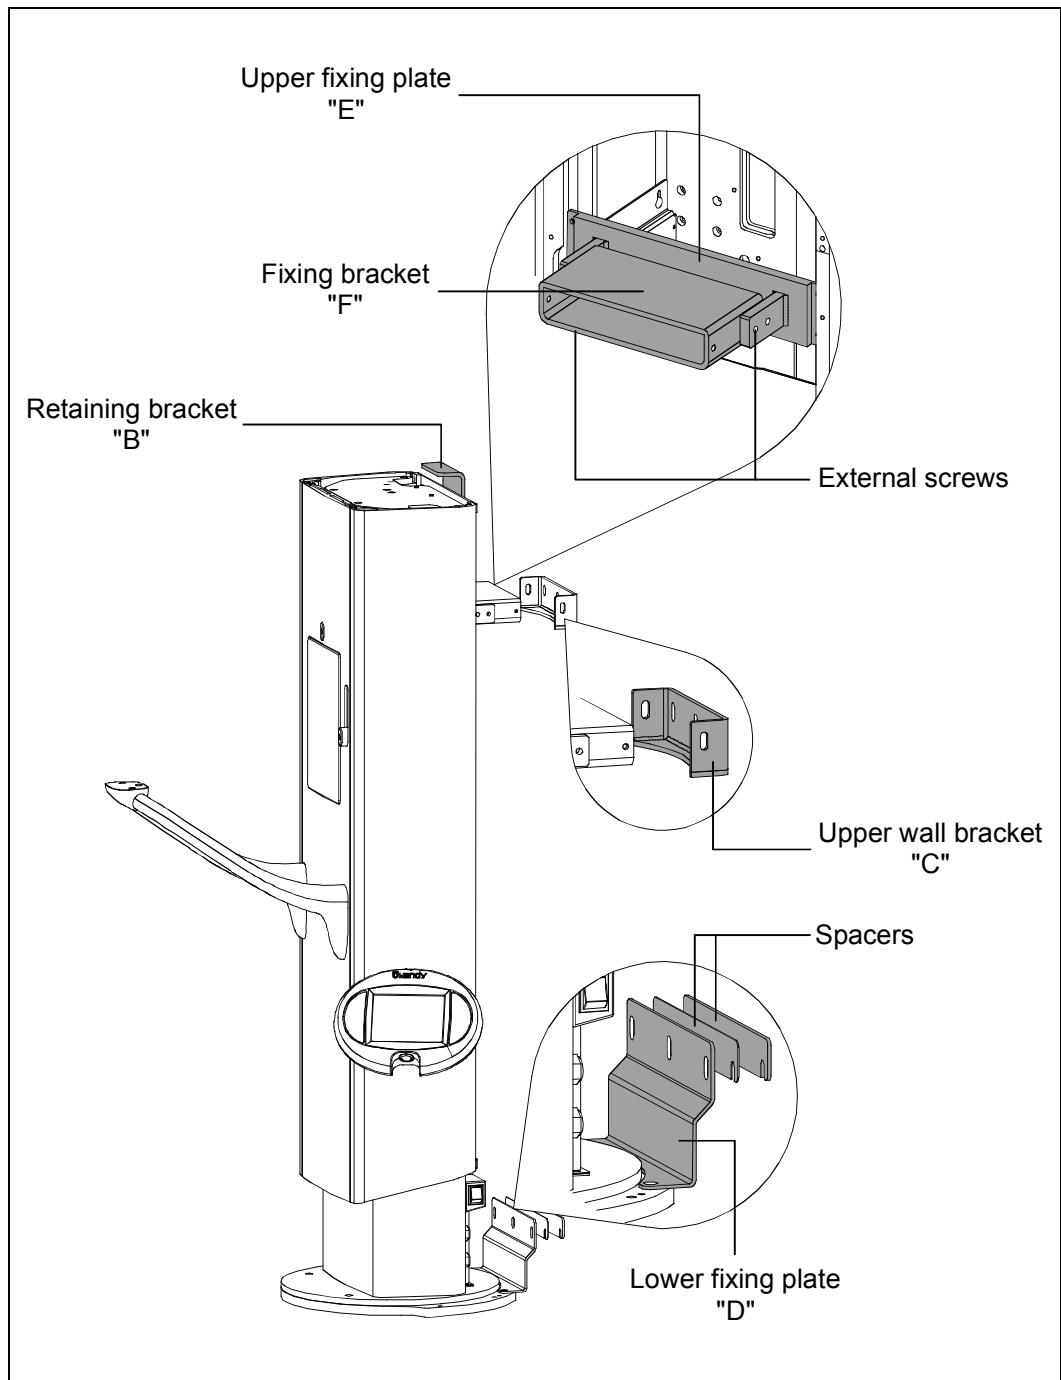

Figure 6-3
2. Mount the upper wall bracket "C" (Figure 6-3) and tighten the fixing screws.
3. Mount on the column basement the lower fixing plate "D"; mount on the column the upper fixing plate "E" and mount the fixing bracket "F" on the fixing plate "E" only with the two external screws (Figure 6-3), without tighten the screw in order to permit the rotation of the plate.
In order to correct this position, it is possible to insert some spacers (Figure 6-3 - provided with the column) between the lower bracket and wall. Once the position is reached, tighten the screws.
1. Remove the column rotation fixing screw located in the back side of the column basement and loose the upper fixing bracket "F" (Figure 6-3) removing the two screws in column side and the two in wall side and loosening the two central screws. Rotate the upper fixing bracket "F".
If necessary, to easily access to the covers back side screws, remove the column rotation fixing screw located in the back side of the column basement and loose the upper fixing bracket "F" (Figure 6-3) removing the two screws in column side and the two in wall side and loosening the two central screws. Rotate the upper fixing bracket "F" and rotate the column in clockwise direction in order to reach the column back side.